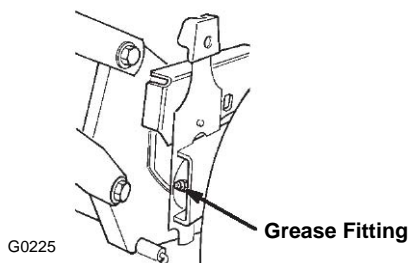

Figure 31
2. Wipe the grease fittings with a clean rag (Fig. 31).
3. Install a grease gun onto the fitting and gently apply 2 or 3 pumps of #2 multi-purpose lithium base grease (Fig. 31).